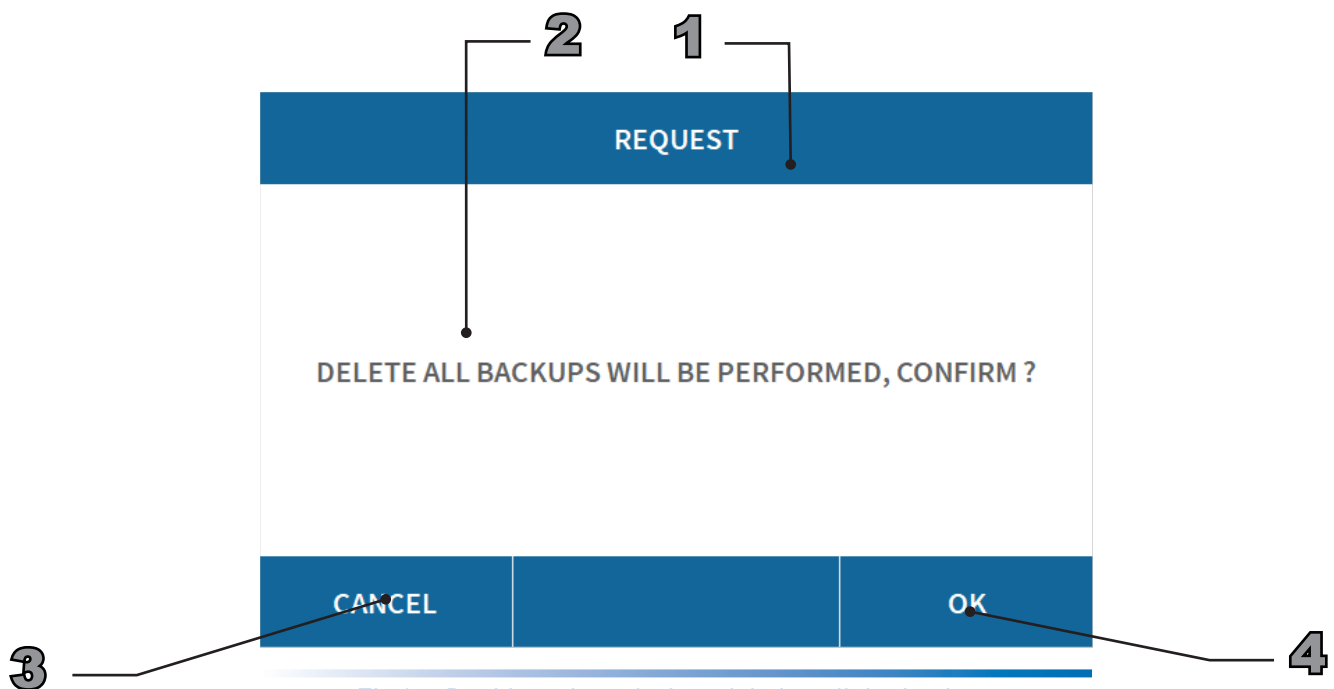

Fig.95. Dashboard used when deleting all the backups
- After pressing the Confirm button **4** Fig.95, the following dashboard Fig.96 appears.